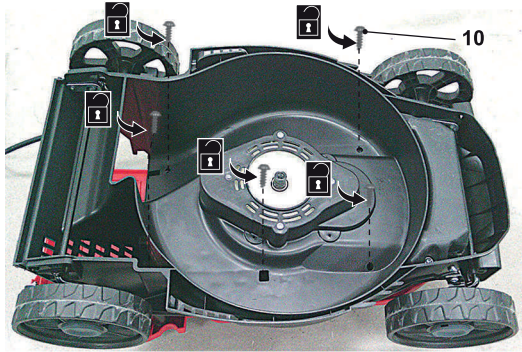

Fig. 4
2. Turn the machine upside down, then remove the 5 self-tapping screws ST4.2\*16 (10) using a Philips #2 screwdriver (Fig. 4).